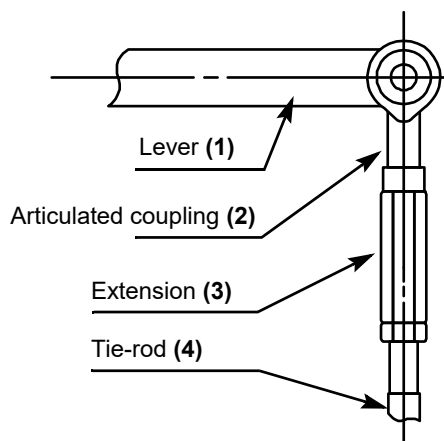

Fig. 32
- Disengage the articulated coupling 2)(Fig. 32) from the lever 1).